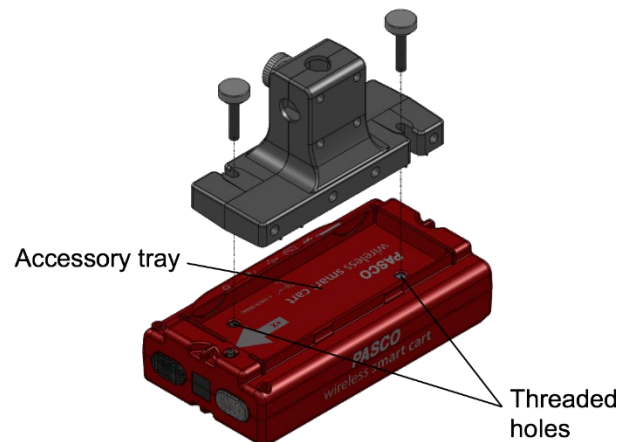

Figure 1. Place the adapter in the Smart Cart accessory tray.
2. Place the adapter in the accessory tray of the Smart Cart (Figure 1).
When using the Super Pulley with Clamp on a force table,\* keep strings as close and parallel to the surface of the table as possible. See Figure 1..